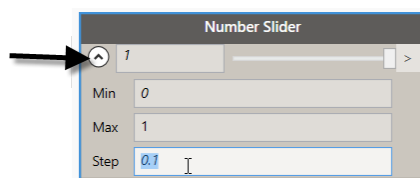

Figure 35
14. Set the Min to: **0** and the Max to: **1**. For the Step, try a value of: **0.1**. and then close the controls by clicking the chevron again (see Figure 35).